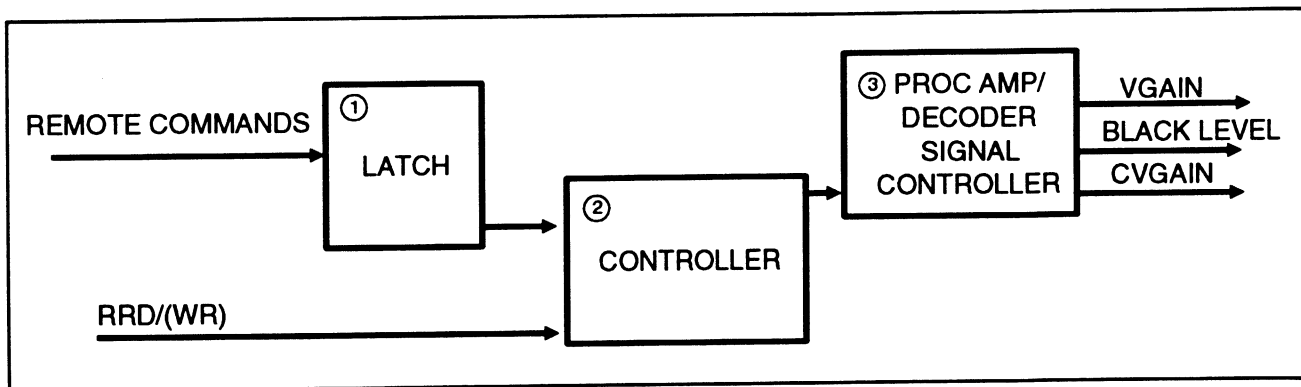

Fig. 2-18.
④ REMOTE CONTROL (See Fig. 2-18)
① Latch